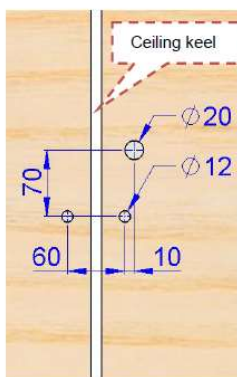
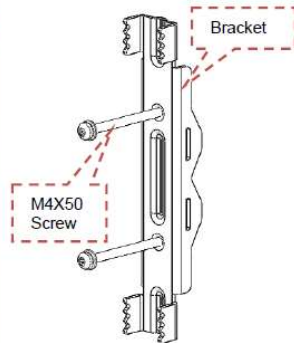
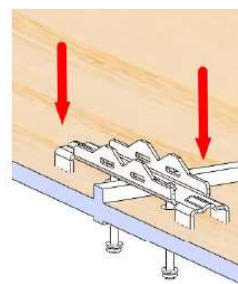
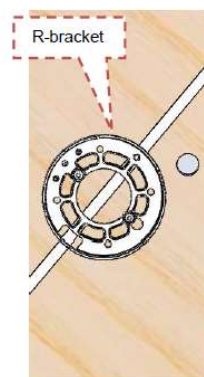

Figure 3-18
Figure 3-19
Figure 3-20
Figure 3-21
Step 1. Select an area for installation near ceiling keel. Drill three holes per (Figure 3-18). Route the screw(M4x50) thru the fastener (Figure 3-19). And the screw from top to bottom thru ceiling mounting hole (Figure 3-20). Place bracket over the screw (M4X50), Adjust the bracket to align the edge of the backplane with the edge of the ceiling. And then use torque screwdriver to tighten the screw to the 1.4N.m (Figure 3-21).